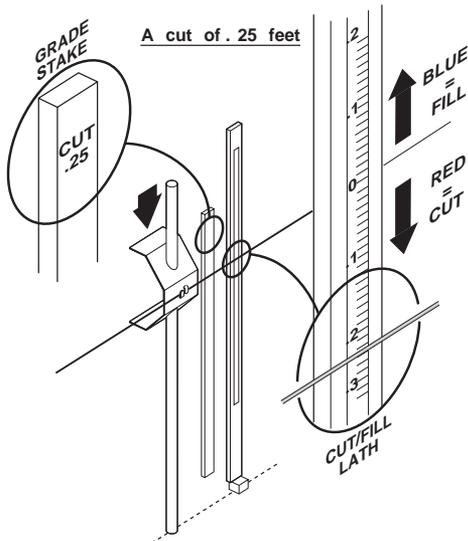

Figure 3-10. Adjust Clip and Stringline to Desired Cut/Fill
- Set the cut/fill lath on the hub and read the cut or fill from the grade stake next to the hub. Adjust the clip up or down until the stringline crosses the cut/fill lath at that point (Figure 3-10).